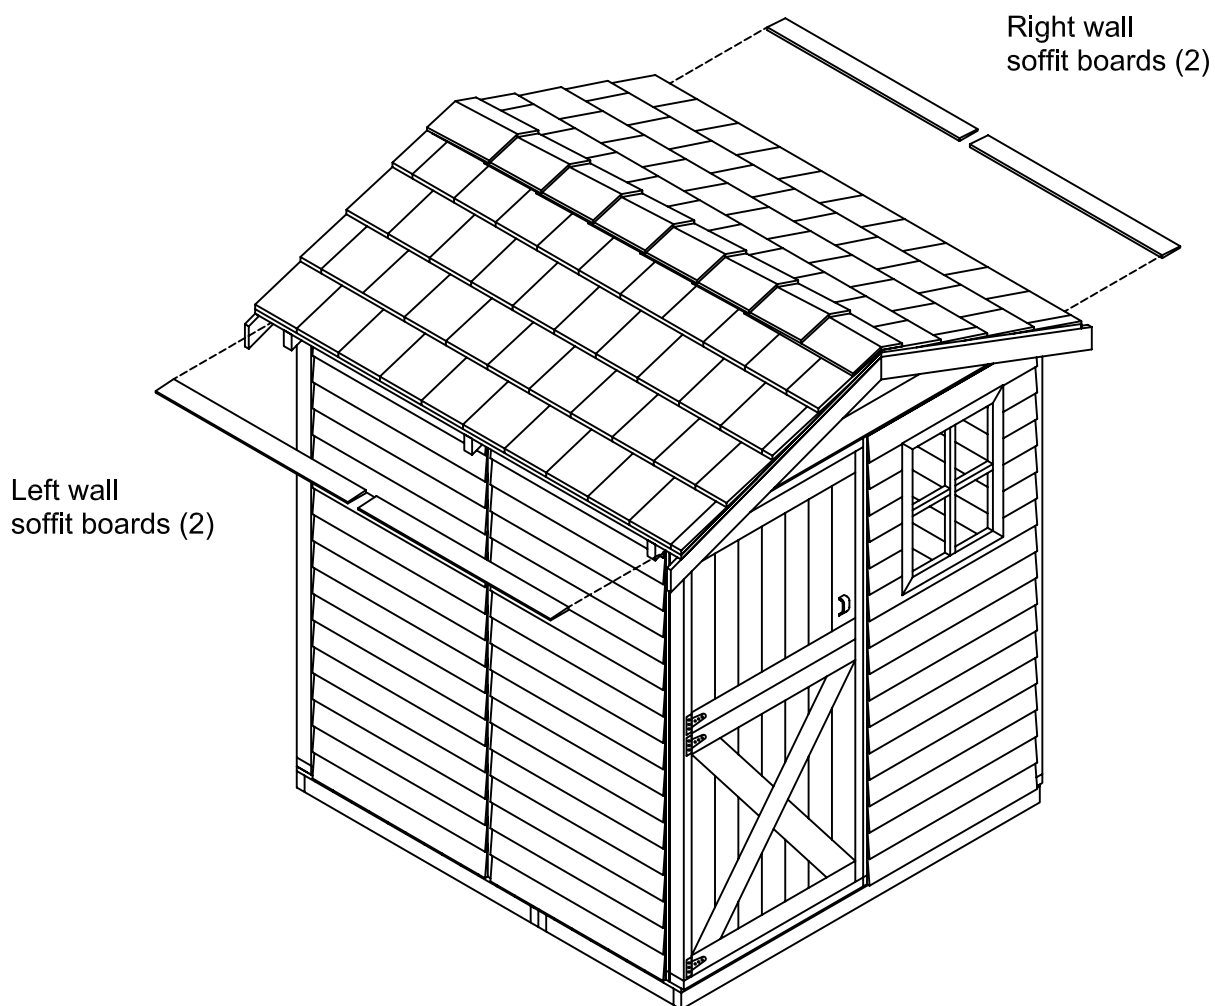

Figure E2
1. Attach soffit to the underside of the rafter using 1 ¾" finishing nails [Figure E2]